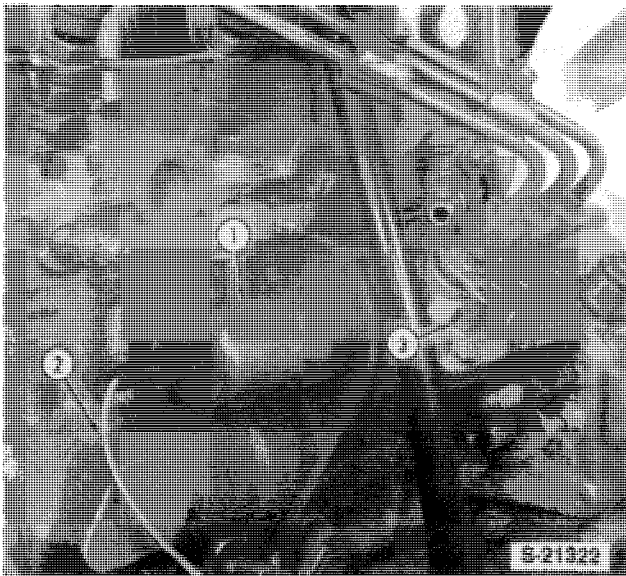

FIGURE 1-12
13. Disconnect the wire, 2, from the injection pump solenoid stop control, Figure 1-12.